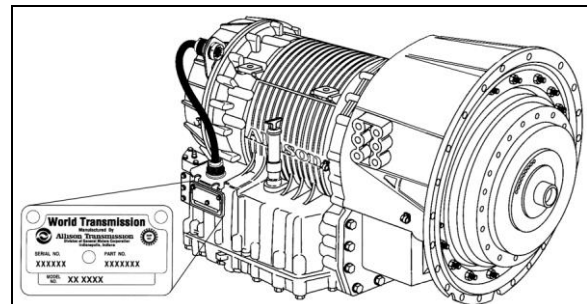
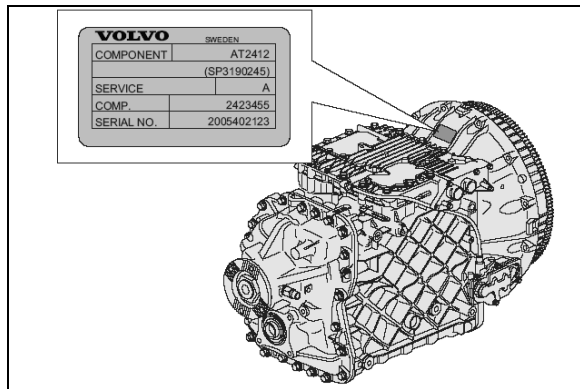

FIGURE 2: ALLISON TRANSMISSION
FIGURE 3: I-SHIFT TRANSMISSION
The transmission identification plate is located on the oil level dipstick side of the transmission (WT) or on transmission (I-Shift) (Figure 2 & Figure 3). The identification plate shows the transmission serial number, part number (assembly number), and model number. Use all three numbers when ordering parts.